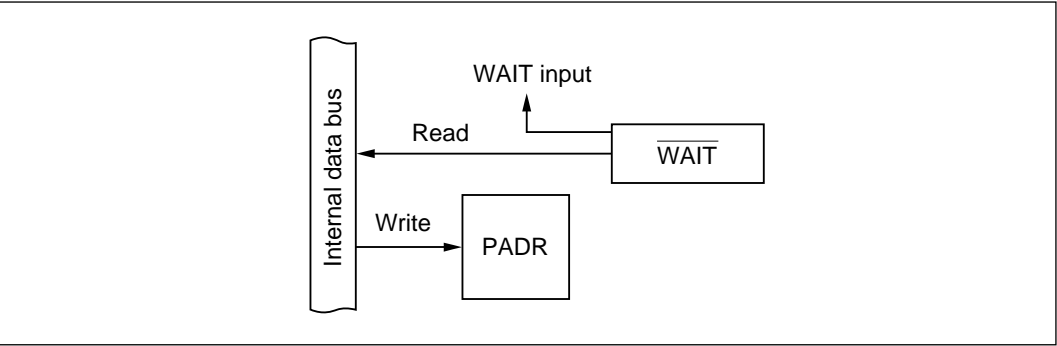

Figure 10-67 $\overline{\text{WAIT}}$ Input Pin (Modes 1 to 6)
(5) **WAIT Pin (PA₄; Modes 1 to 6):** Figure 10-67 shows a block diagram illustrating the $\overline{\text{WAIT}}$ function. Table 10-51 indicates register read/write data. When PA₆ is used for $\overline{\text{WAIT}}$ input, the value written in the port A data register (PADR) has no effect.